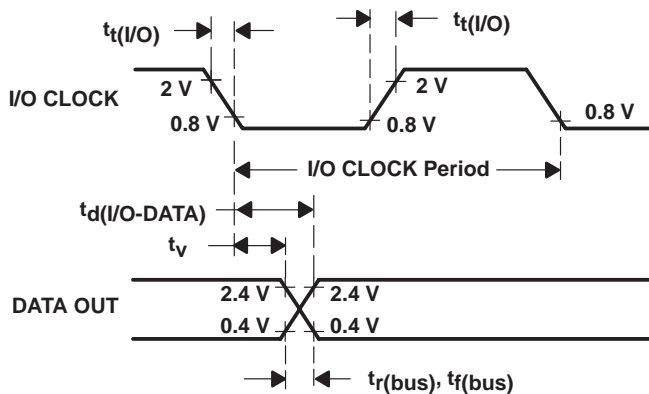

Figure 5. I/O CLOCK and DATA OUT Voltage Waveforms
| Transition time, I/O CLOCK, $t_t(I/O)$ (see Note 5 and Figure 5)                              |                                       |          |          | 1              | $\mu\text{s}$      |
| $t_v$                  | Valid time, DATA OUT remains valid after I/O CLOCK $\downarrow$  | See Figure 5                | 10  |                                    | ns            |
| $t_d(\text{I/O-DATA})$ | Delay time, I/O CLOCK $\downarrow$ to DATA OUT valid   | See Figure 5                |     | 240                                | ns            |
| $t_{r(\text{bus})}$    | Rise time, data bus  | See Figure 5                |     | 300                                | ns            |
| $t_{f(\text{bus})}$    | Fall time, data bus  | See Figure 5                |     | 300                                | ns            |
9. I/O CLOCK period = 1/(I/O CLOCK frequency). Sampling begins on the falling edge of the third I/O CLOCK, continues for seven I/O CLOCK periods, and ends on the falling edge of the tenth I/O CLOCK (see Figure 5).